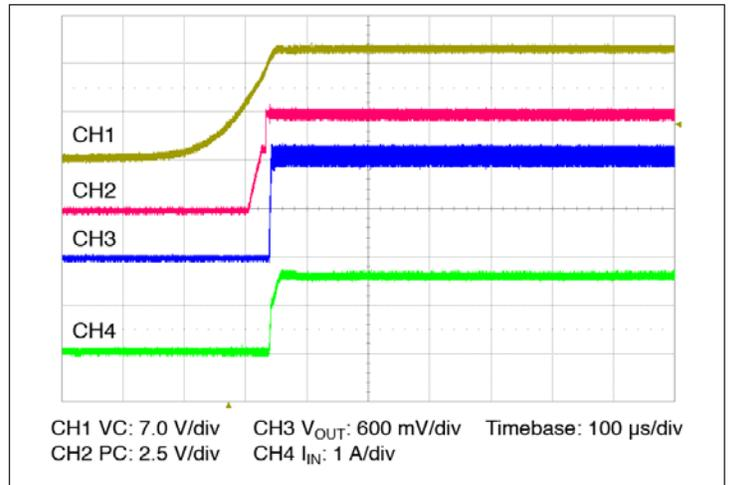

Figure 10 – Start up from application of VC; V_{IN} pre-applied
- **Stand Alone Operation (VC applied after V_{IN}):** In this case the VTM output will begin to rise upon the application of the VC voltage (See Figure 10). The output rate of rise will vary depending on the amount of output capacitance in order to limit the inrush current. In this mode of operation, the maximum output capacitance is 1,000 μ F due to limitations of the inrush limiting circuitry.